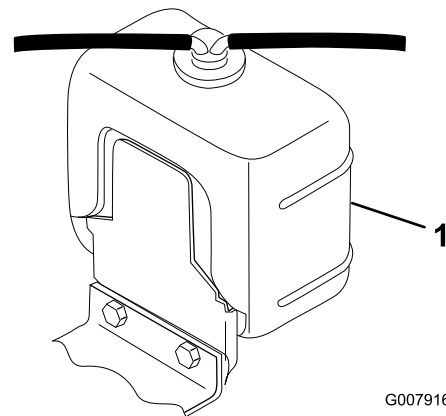

Figure 33
1. Carefully remove radiator cap and expansion tank cap (Figure 33).
2. Check level of coolant in radiator and in expansion tank (Figure 33).